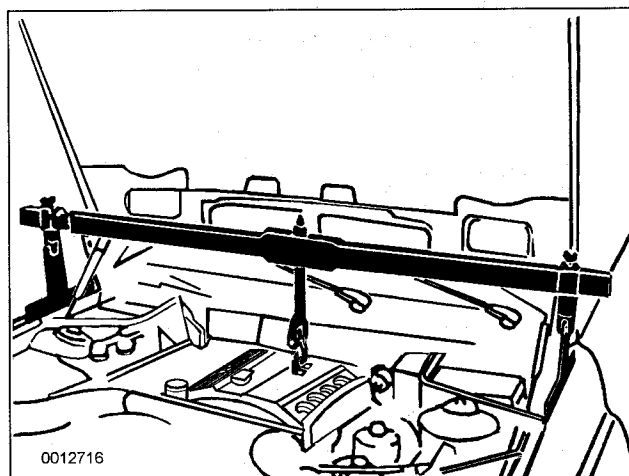

Fig. 6. Engine support equipment used to support engine from above before removing transmission.
2. Install engine support across engine bay. Raise and safely support vehicle. See Fig. 6.